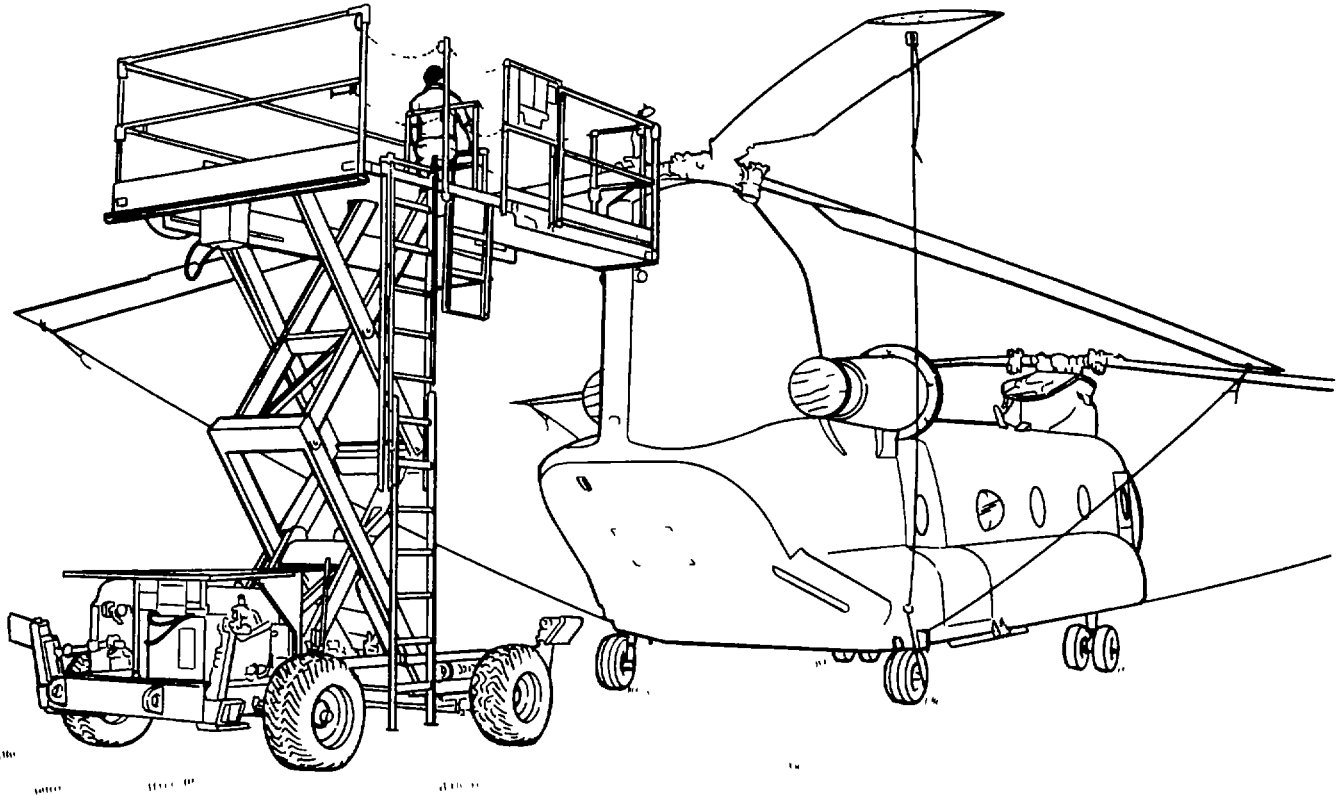

Figure 2-23. Aft Positioning of SPEMS.
(1) Aft Positioning (Figure 2-23):